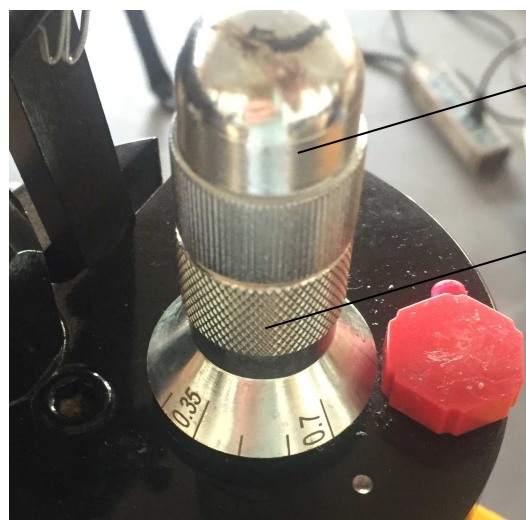

Fig 4
② Back off the Depth adjusting nut, leaving proper space for grooving depth, by comparing the adjusting mark to reference mark. Tight the lock nut, the depth setting is done. (Fig 4)